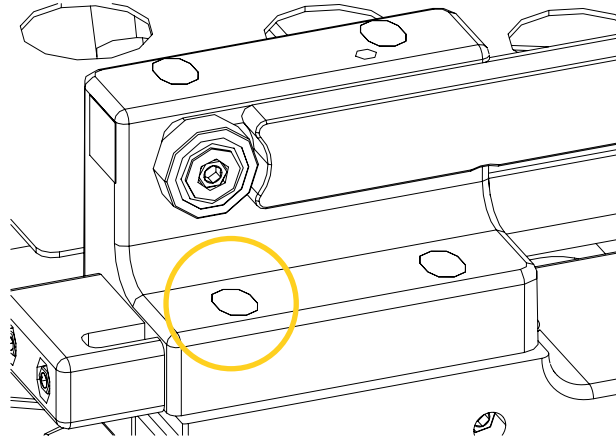

Figure 30: Tightening the screw on top of the rail system
14. Tighten the previously inaccessible screw located on the top of each rail using an Allen key 3/16 in. (Figure 30).